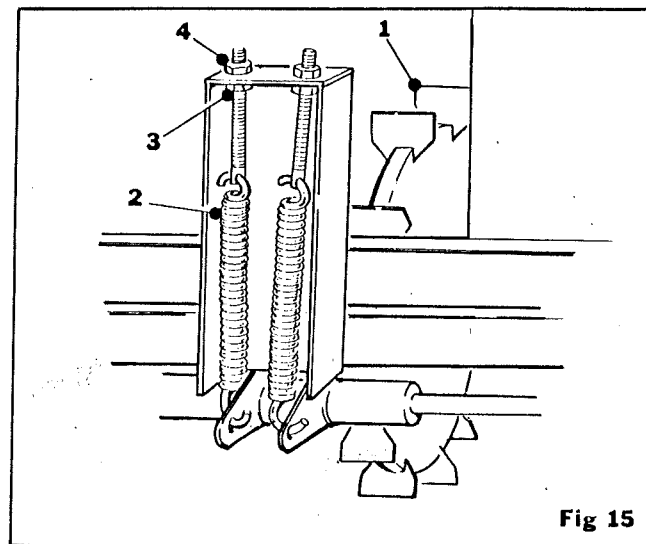

Fig 15
The land wheel (item 1 fig. 15) is designed to drive the topping units. Pressure is applied to the land wheel to ensure that the topping unit feeler wheel is always turning. The pressure is applied by two springs (item 2 fig. 15). To adjust the pressure, slacken the lock nut (item 3 fig. 15) and turn the adjusting nut (item 4 fig. 15). The land wheel is also adjustable for varying row widths. The adjustment is the same as for the topping unit adjustment.